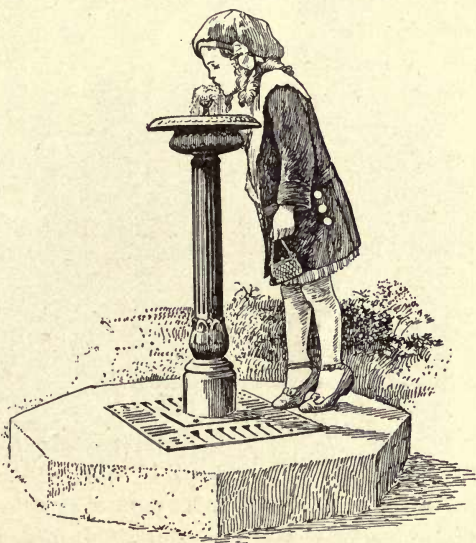

FIG. 368. — A Drinking Fountain.
**Public Drinking Cups, Towels, etc.** — No matter how many precautions are taken to provide pure water, the purpose is largely defeated if we allow the diseased and healthy to use the same cup for drinking. Nothing is more dangerous or disgusting than the public drinking cup as it has been used in many public places. Many states now have laws forbidding the use of such cups. City streets and parks, schools, public buildings, and trains are equipped largely with sanitary fountains and individual drinking cups (Figure 368).